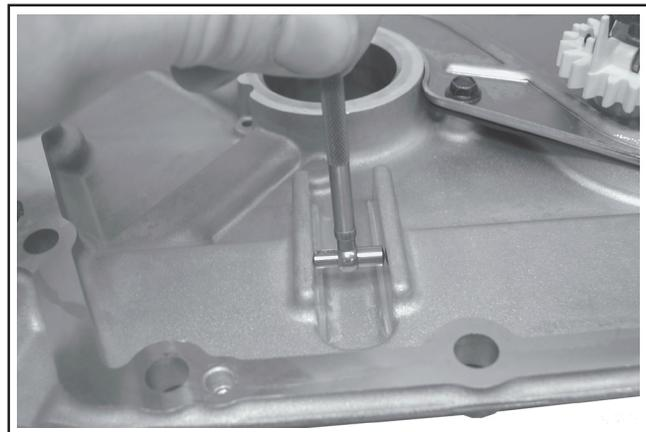

Figure 9-7. Measuring Guide Channel in Closure Plate.
2. Use an inside micrometer, telescoping gauge or similar tool and measure the width of the guide channel in the closure plate. See Figure 9-7. Record these dimensions.